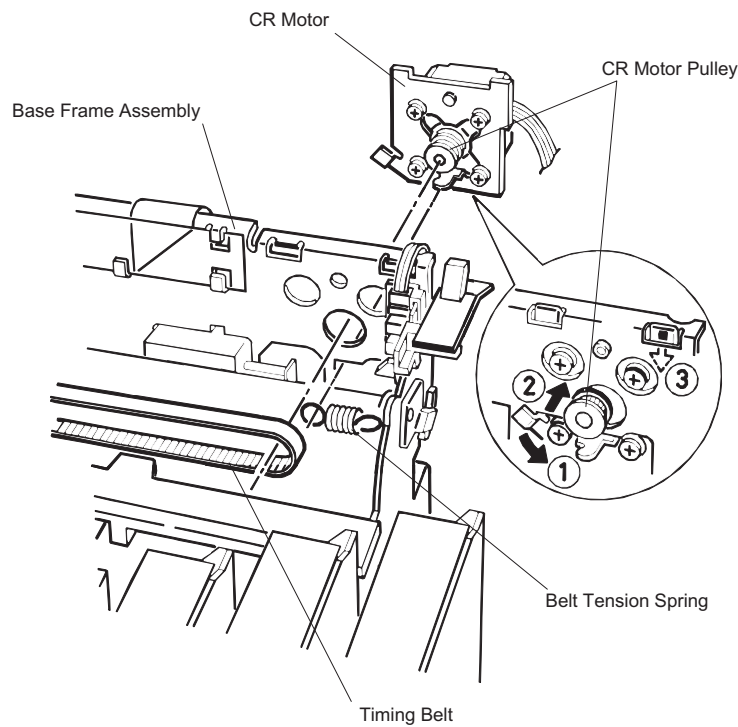

Figure 3-13. CR Motor Removal
4. Release the joint for the CR motor and base frame assembly by turning the motor counterclockwise in the order shown by the steps 1 to 3 in Figure 3-13. Then remove the CR motor by pulling it toward the bottom edge of the base frame assembly.